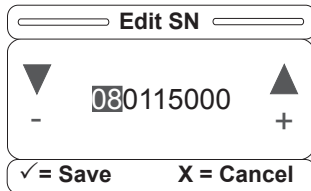

Figure S-22
23. Once the bed up/down lock key is pressed, the highlighted sections will change as indicated above in Figures S-22, 23, 24 and 25. Hold down “Enter” on the footboard panel for two seconds to save the serial number or press “Exit” to cancel the operation.